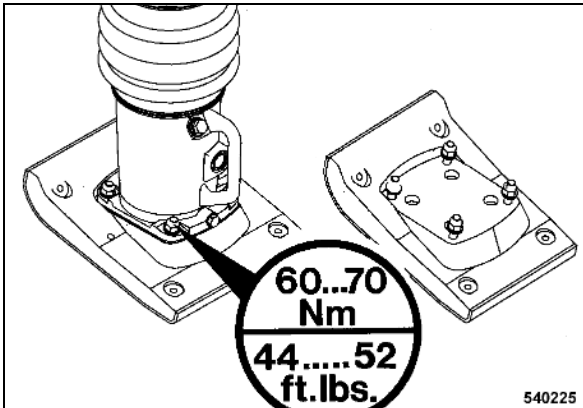

Fig. 27
- After changing the tamper foot plate (Fig. 27) tighten the 4 fastening screws with a tightening torque of 60 to 70 Nm (44 to 52 ft. lbs).